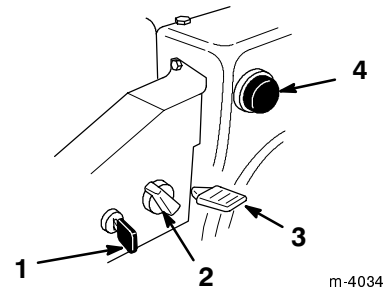

Figure 20
- **Ignition Switch** (Fig. 20)—Insert the key before starting the engine with the recoil starter. To stop the engine, remove the key.
- **Choke** (Fig. 20)—Rotate the choke clockwise to the *On* position to start a cold engine. As engine warms up, gradually move the choke counterclockwise to the *Off* position.
- **Throttle** (Fig. 20)—Move the throttle upward to increase the engine speed and downward to decrease the speed. Move the throttle completely downward to stop the engine.
- **Primer** (Fig. 20)—Press the primer to pump a small amount of gasoline into the engine for improved cold-weather starting.
2. Remove the key from the ignition switch (Fig. 20).
3. Pull the choke knob off (Fig. 20).
4. Rotate the choke (Fig. 20) to the *On* position.
5. Insert the ignition key (Fig. 20).
6. Cover the hole in the center of the primer (Fig. 20) with your thumb and slowly push in the primer three times.
9. After the engine starts, immediately rotate the choke (Fig. 20) to the $3/4$ position. As the engine warms up, rotate the choke to the $1/2$ position. When the engine warms up sufficiently, rotate the choke to the *Off* position.